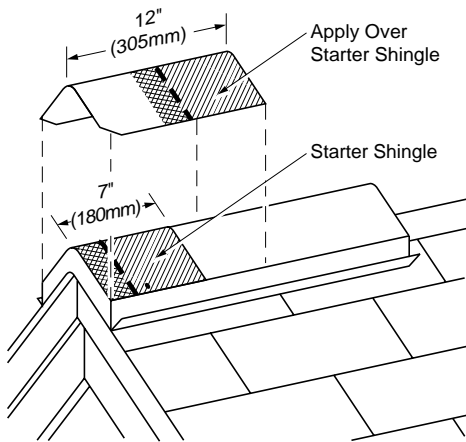

Figure 14-17: Apply a full cap shingle over the starter piece, flush with the bottom and side edges of the starter.
2. Install caps at the bottom of a hip or at either end of a ridge. Apply a starter piece that has the bottom 5" removed (Figure 14-17). Fasten the starter with two nails located about 3" from the rake edge, and 1" in from each side edge. Make sure fasteners used to apply caps are of sufficient length to penetrate at least 3/4" into or through the decking.
3. Apply a full cap shingle over the starter (Figure 14-17), and place fasteners at 5 5/8" up from the exposed bottom edge and 1" from each side. Nails must not be exposed on the finished roof. All nail heads must be driven straight and must not cut into the shingle surface.